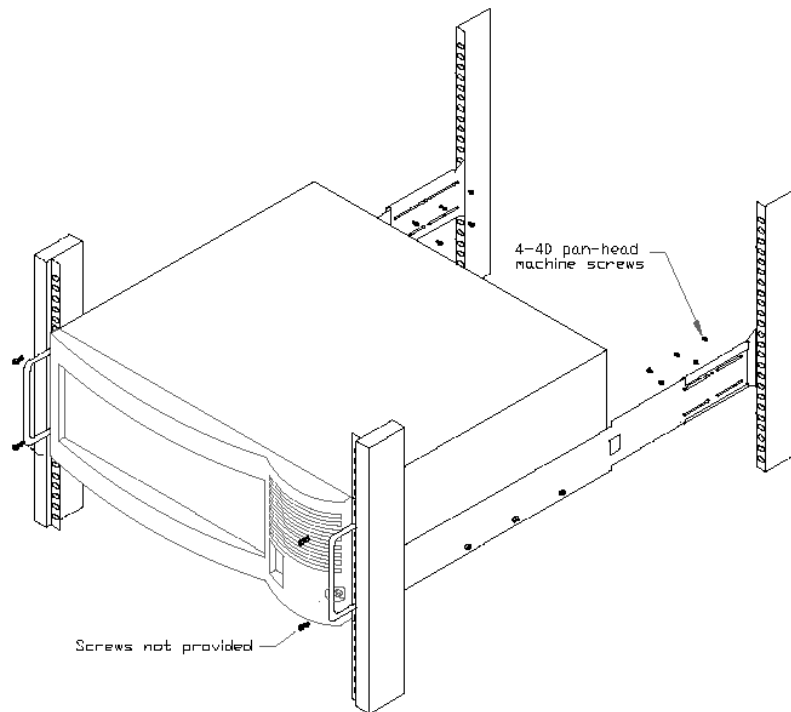

Figure 4.2 Mounting the VSR-2 Chassis in the Rack
5. While supporting the VSR-2 chassis, slide the rack-mount brackets into the installed rear extenders as shown in Figure 4.2.
6. Using your screws or clips, fasten the front bracket to the equipment rack as shown in Figure 4.2.
7. Using the provided 4-40 pan-head screws, fasten the brackets and bracket extenders together. The standard rack-mount bracket, extender and screws fit together as shown in Figure 4.2.